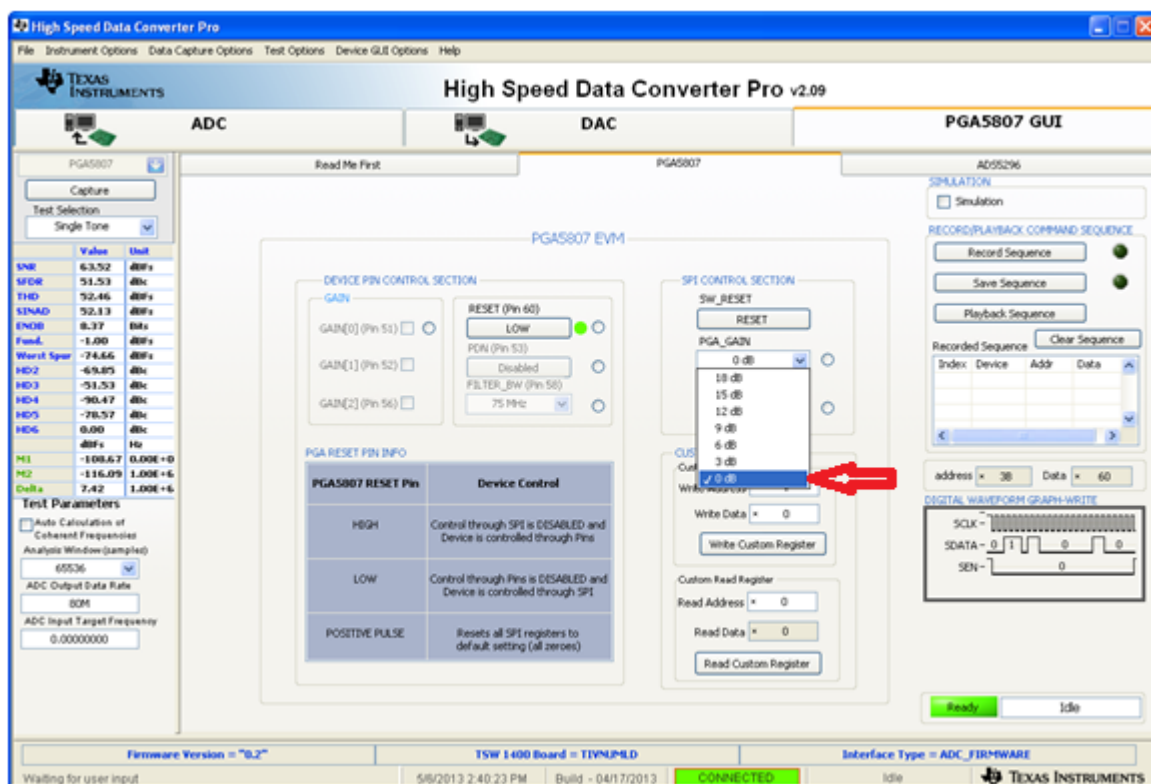

Figure 46. PGA5807 GUI Setup for PGA5807+ADS5296 SNR, THD, Gain Test 2
- Return to the PGA5807 tab and change the PGA_GAIN in the SPI CONTROL SECTION to 0 dB as shown in Figure 46.